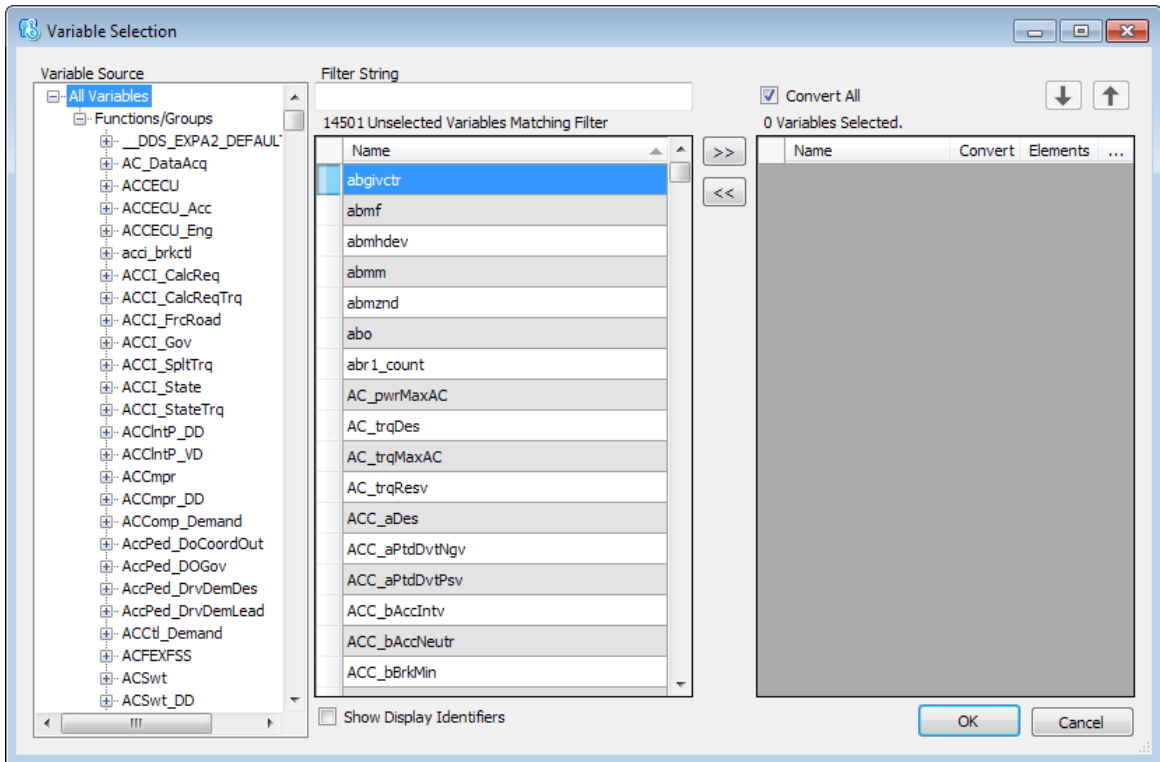

Figure 4.13: EHOOKS variable selection dialog window
Opens the EHOOKS variable selection dialog window (see Figure 4.13 on page 30). Variables you select there will be available in the "ECU Variables" columns.
Opens the EHOOKS variable selection dialog window (see Figure 4.13 on page 30). Variables you select there will be mapped automatically to messages with identical names. Existing mappings are overwritten.
Opens the EHOOKS variable selection dialog window (see Figure 4.13 on page 30). Variables you select there will be mapped automatically to messages with identical names. Existing mappings are kept.
This column lists all unmapped ECU Write Hook variables that are available for mapping. The elements are displayed the same way as in the EHOOKS variable selection dialog window (see Figure 4.13 on page 30).
- To open the EHOOKS variable selection dialog window (see Figure 4.13 on page 30), do one of the following: